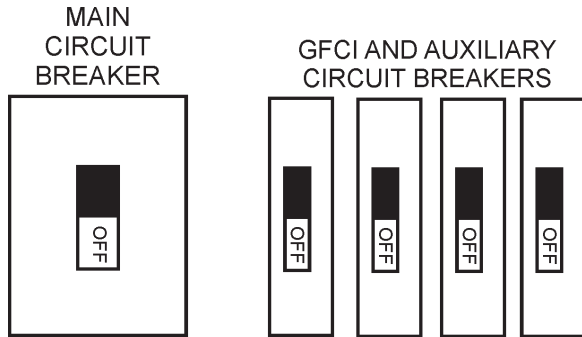

Figure 25. Main, GFCI, and Auxillary Circuit Breakers (OFF)
- Place the **main, G.F.C.I.,** and **aux.** circuit breakers (Figure 25) in the **OFF** position prior to starting the engine.
1. Place both the **main**, **GFCI**, and **aux.** circuit breakers as shown in Figure 25 to the **OFF** position.
2. Place both the **main**, **GFCI**, and **aux.** circuit breakers as shown in Figure 25 to the **OFF** position.